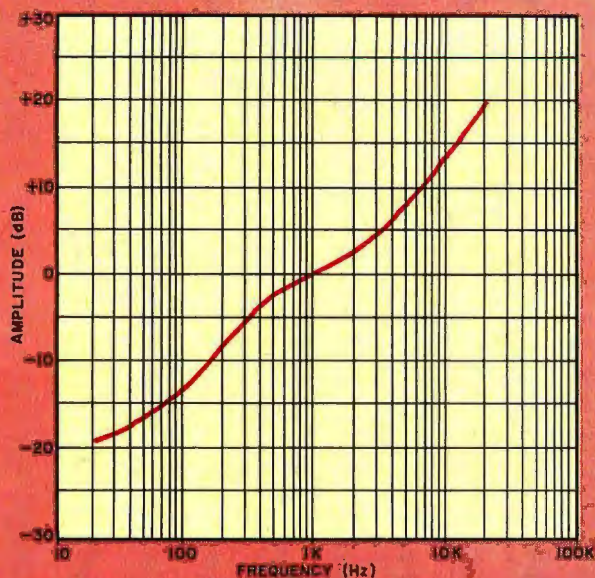

Fig. 1. RIAA recording characteristic boosts highs and attenuates bass.
In a Class D amplifier, the audio input signal is used to vary the pulse width of a 500-kHz pulse train (Fig. 1). The reduced duty cycle of the amplifier section results in higher efficiency than with Class B operation. An integrating network "reads" the average width of pulses and reconstitutes the audio signal waveshape. The high-frequency "sawtooth" edges of the restored waveform are inaudible.
Fig. 1. With the class D switching power amplifier shown above, signal (A) at left modulates pulse (B) to give pulses of varying width (C). These are then integrated to create replica of the original signal (D).
Phono preamplifiers differ from other preamplifiers only in their frequency response, which is specially tailored to compensate for (equalize) the recording characteristic. If a fixed-amplitude signal is recorded on a phonograph disc while its frequency is varied from 20 to 20,000 Hz, the result will have a playback response curve similar to that in Fig. 1. This plot of phono cartridge output (amplitude) versus frequency indicates a dramatic alteration of the fixed amplitude input signal. *Playback equalization*, which is performed by the phono preamplifier, corrects this alteration and recreates the applied flat-amplitude signal. To understand why we must go through this procedure, a consideration of the recording process is necessary.
On the disc, an audio signal's amplitude is deposited in the form of groove modulation amplitude, and its frequency appears as the rate of change of groove modulation. This sounds simple enough, but why isn't the graph of Fig. 1 a straight horizontal line centered on 0 dB? After all, we are applying a signal of fixed amplitude.
Figure 1 shows the pre-equalization of signals to be applied to the cutting head. The equalization curve has this particular shape for two reasons. First, low frequencies are attenuated to prevent cutover. Second, boosting the high-frequency content improves the S/N ratio. Because the driving coils of the cutting head are primarily inductive loads, their impedances are frequency dependent. If a fixed input signal causes a constant voltage to be applied across the coils, the resulting current, and thus magnetic field and rate of change of vibration, become frequency dependent. This is called *constant amplitude* recording.